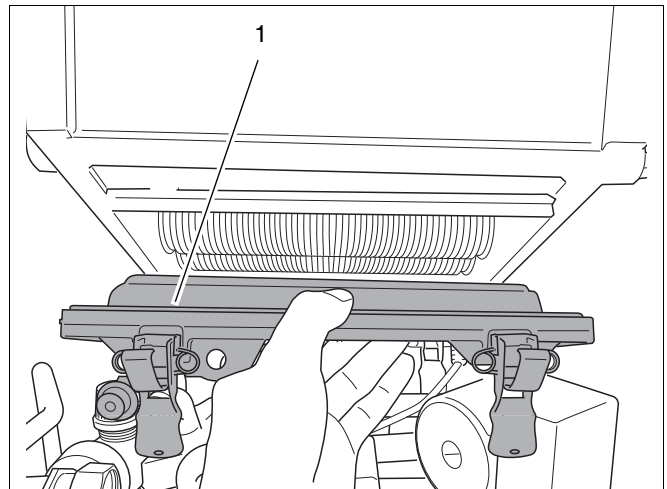

fig. 100 Removing the condensate collector
- Remove the condensate collector (see fig. 100, pos. 1).
Remove the flue gas collector from the old heat exchanger, including the oval seal. Put silicon kit on both sides of the oval seal, the flue gas collector and the heat exchanger. Reassemble the flue gas collector with the oval seal to the heat exchanger. Check if the oval seal is placed correctly by opening the condensate collector (see page 122, fig. 100).